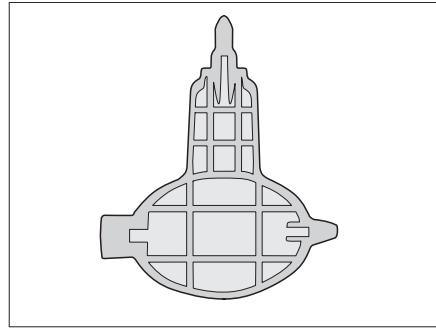

Fig. 290 Key for Siphon (only Alpa)
- ▷ The Alpa model has a key (Fig. 290) enclosed for the releasing the siphon.